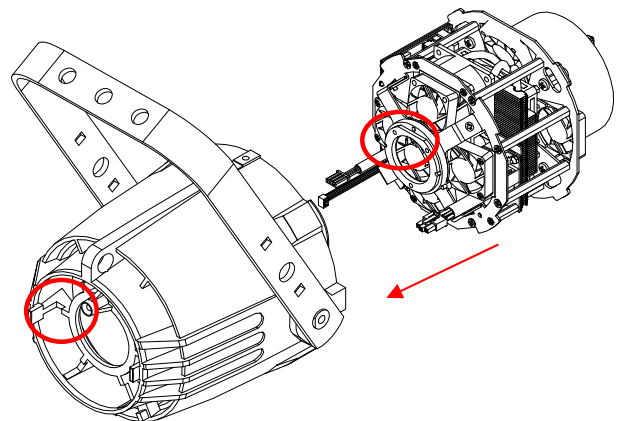

Fig.3
7. Accommodate the HPLED in the Source 4 body. Ensure the correct inward direction is followed as remarked by the 2 red round ring references. Make also sure to follow the red arrow direction as shown in figure 3. During such operation make sure that the 3 connecting cables (i.e. power cable, DMX cable and display cable) are not squeezed, while being lead through loop-holes, during reassembling of the unit.